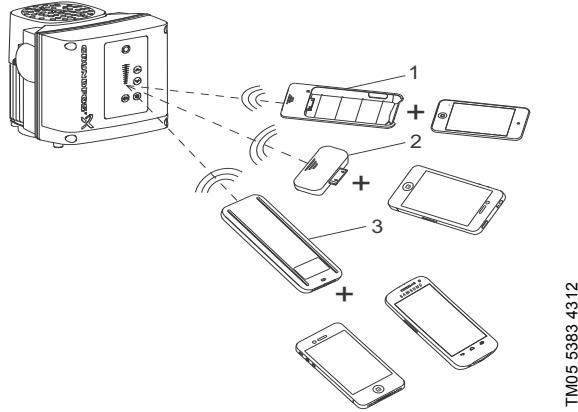

Fig. 16 Grundfos GO Remote communicating with the pump via radio or infrared light
The pump is designed for wireless radio or infrared communication with the Grundfos GO Remote. The Grundfos GO Remote enables setting of functions and gives access to status overviews, technical product information and actual operating parameters. The Grundfos GO Remote offers three different mobile interfaces (MI). See fig. 16.